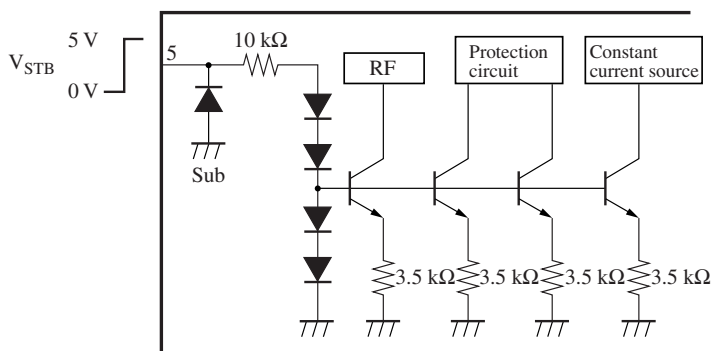

Figure 1
- 3) The internal circuit of standby terminal is as shown in figure 1. When the standby terminal is high, the current approximately expressed by the following equation will flow into the circuit.